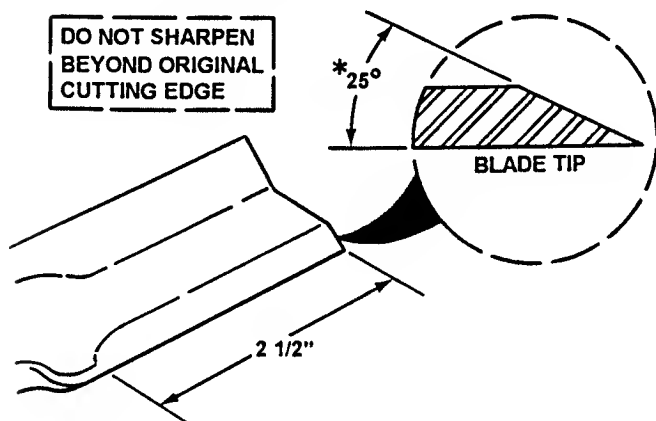

FIGURE 4.22
4. If blade is in good condition, sharpen at 22 to 28 degrees. DO NOT sharpen beyond existing cutting edge. See Figure 4.22.